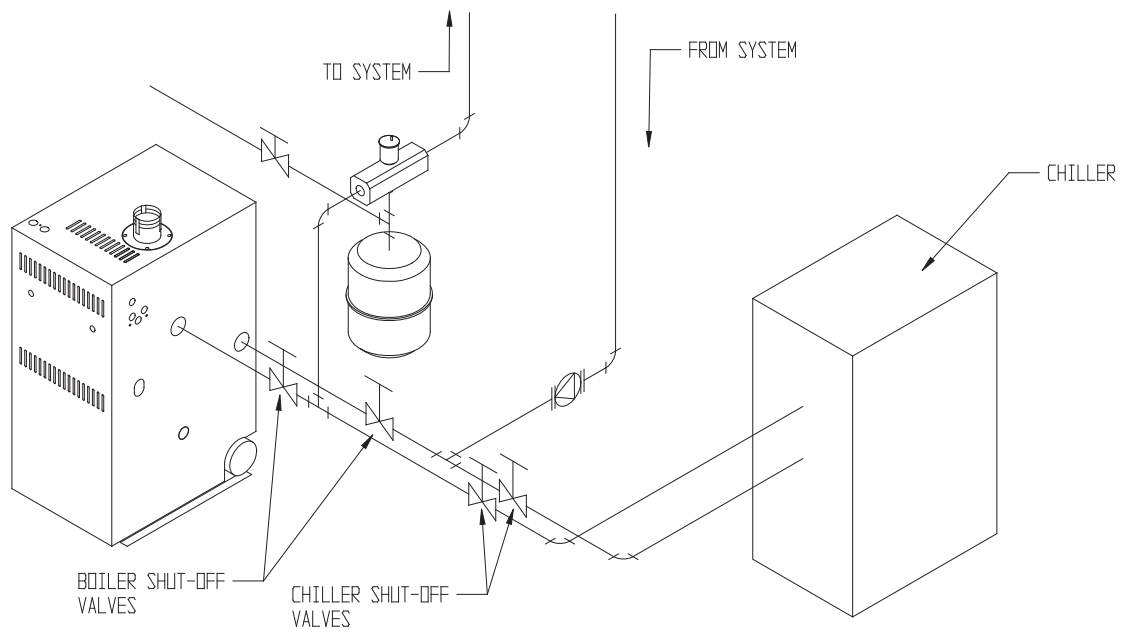

FIGURE 30: CHILLER PIPING
- 5) Piping with a Chiller – If the boiler is used in conjunction with a chiller, pipe the boiler and chiller in parallel as shown in Figure 30. Use isolation valves to prevent chilled water from entering the boiler.